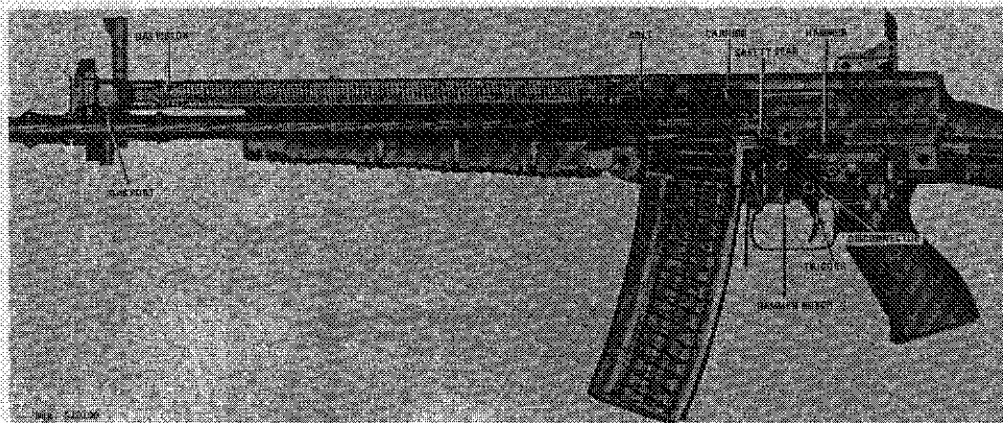

Figure 101. Beretta M70/.223 section.
a. The Beretta M70/.223 is gas operated. When the rifle is loaded and cocked, pressure on the trigger releases the hammer which, under pressure of its spring, swings forward, strikes the firing pin, and fires the chambered cartridge. As the bullet drives down the barrel, it passes the gas port and some propellant gases are diverted through the port into the gas cylinder. The gas piston (fig 101) is driven rearward, driving the bolt carrier rearward, and compressing the driving spring.
b. As the bolt carrier moves rearward, it causes the hammer to rock back, and the safety sear (fig 101) rises. As the bolt carrier continues rearward, the cam recess in the carrier (fig 101) acts on the operating lug of the bolt and rotates the bolt to its unlocked position. Once unlocked, the bolt and carrier move to the rear as a unit. The extractor pulls the fired cartridge case from the chamber and holds it to the bolt until the case strikes the ejector and is expelled through the ejection port. The bolt carrier finally strikes the rear of the receiver and stops. The driving spring then drives the bolt carrier forward, and the feed rib on the bolt
c. When the selector is set on I (semiautomatic), the hammer is held cocked by the nose of the trigger engaging a notch in the hammer; when the trigger is pressed, it disengages from the hammer, allowing it to swing forward. As the trigger rotates, the disconnector (fig 101) rotates with it, and the disconnector hook moves forward to where it can engage a second notch on the hammer (fig 101). When the bolt carrier counterrecoils, the disconnector then catches the hammer and holds it cocked. When the trigger is released, the disconnector rotates rearward with it and releases the hammer; the trigger, however, has moved enough so that the trigger nose reengages the hammer. Pressure on the trigger will now fire a second shot.
d. When the selector is set at A (automatic), a portion of the selector swings off the rear of the disconnector (fig 101) so that when the trigger is pressed the disconnector is blocked and does not move with the trigger as in paragraph c above. When the
bolt carrier counterrecoils, only the safety sear (fig 101) holds the hammer cocked, and as the bolt carrier completes its forward travel, it trips the safety sear which releases the hammer to fire another round. This action continues until the magazine is empty, or until the trigger is released and its nose engages the hammer.